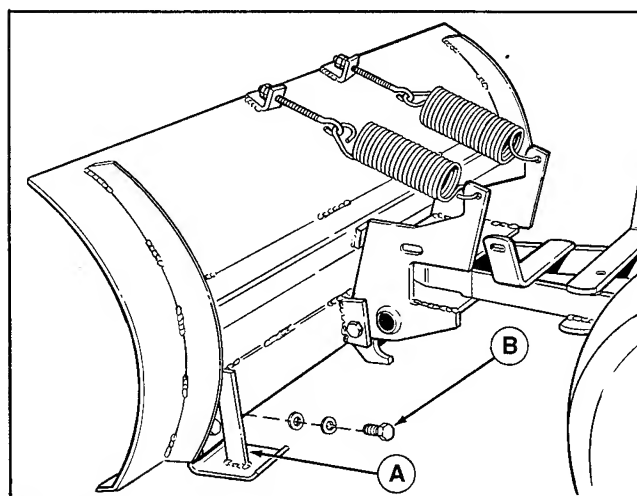

Figure 9.
Alternate holes are provided to permit adjustment of the shoe assemblies for raising and lowering the blade to various working heights (see figure 9). When cleaning snow from gravel or earth drives or walks the shoe assemblies should be lowered fully to prevent blade contact with gravel or ground. When cleaning smooth hard surfaces, like concrete,
To adjust the skid, raise the blade off the ground and block with a piece of wood. Loosen the bolts (B, figure 9) and move the skid shoes (A) up or down to desired height. Tighten the bolts securely.